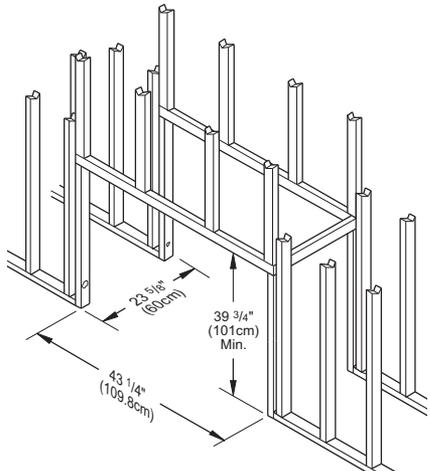
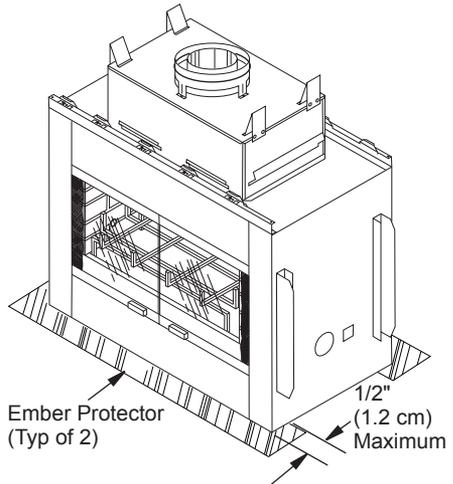
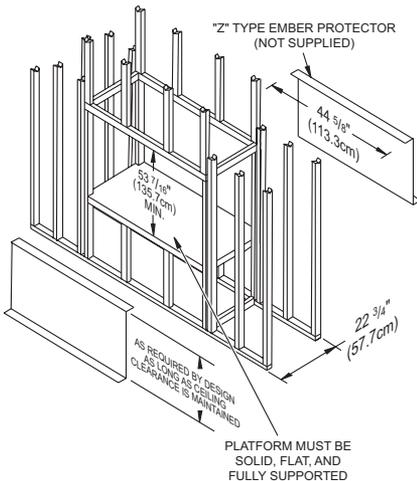
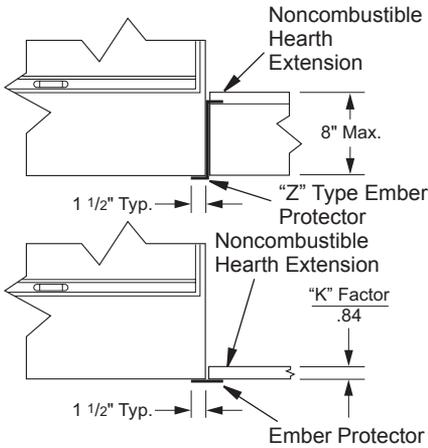

Figure 4 - Framing Firebox
Figure 7 - Ember Protectors
Figure 6 - Framing Firebox with "Z" Type Ember Protectors
Figure 10 - Raised Hearth Extension
1. Frame the opening for the fireplace using the dimensions shown in Figures 4 and 5 and Figure 6 on page 5.
- Before securing fireplace to prepared framing, ember protector (provided) must be placed between hearth extension (not supplied) and under bottom front edge of fireplace to protect against glowing embers falling through (see Figure 7). If fireplace is to be installed on a raised platform, a Z-type ember protector (not supplied) must be fabricated to fit your required platform height (see Figure 6). The ember protector should extend under fireplace a minimum of 1 1/2". The ember protector should be made of galvanized sheet metal (28 gauge minimum) to prevent corrosion.
If hearth extension is to be raised, a "Z" type ember protector must be used (see Figure 6 and Figure 10, page 6)